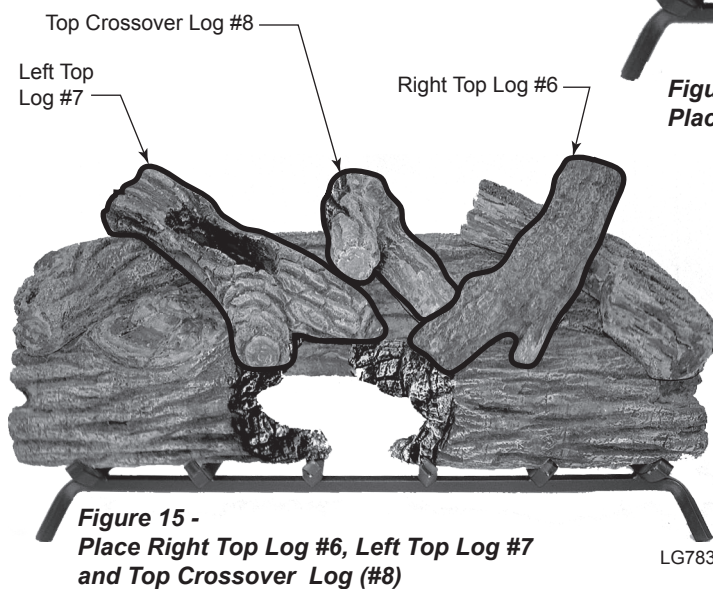

Figure 15 -
6. Install right top log #6 as shown. *Figure 15*
7. Install left top log #7 as shown. *Figure 15*
8. Install top crossover log #8 as shown. *Figure 15*